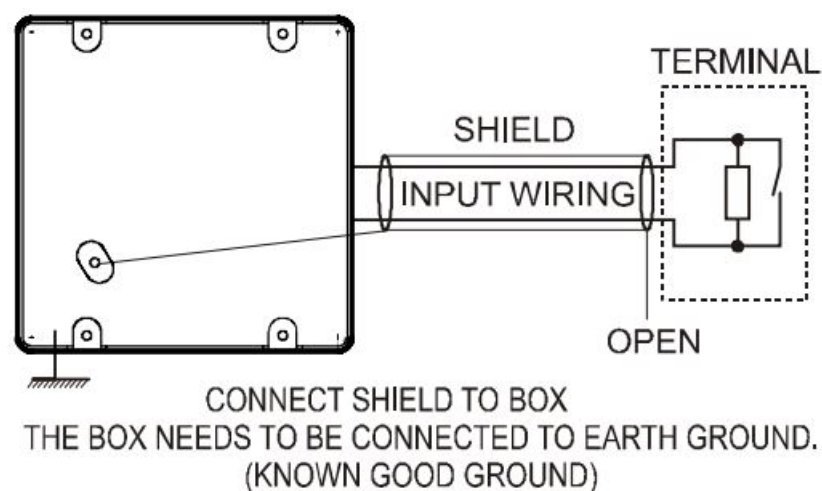

Figure 9 Input shielding
13. Tie the switch wiring shield to the local earth ground (at only one end, refer to Figure 9). For multiple switches on the same input, connect incoming and outgoing shields together in an acceptable means. Insulate shields, do not make any connections to the device or back box.